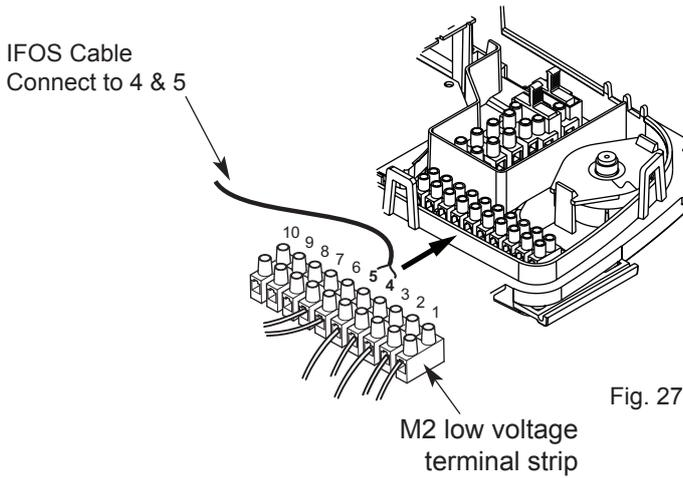

Fig. 27
2. Connect the IFOS cable to 4 & 5 on the M2 low voltage terminal strip (Fig. 27). There is no polarity.